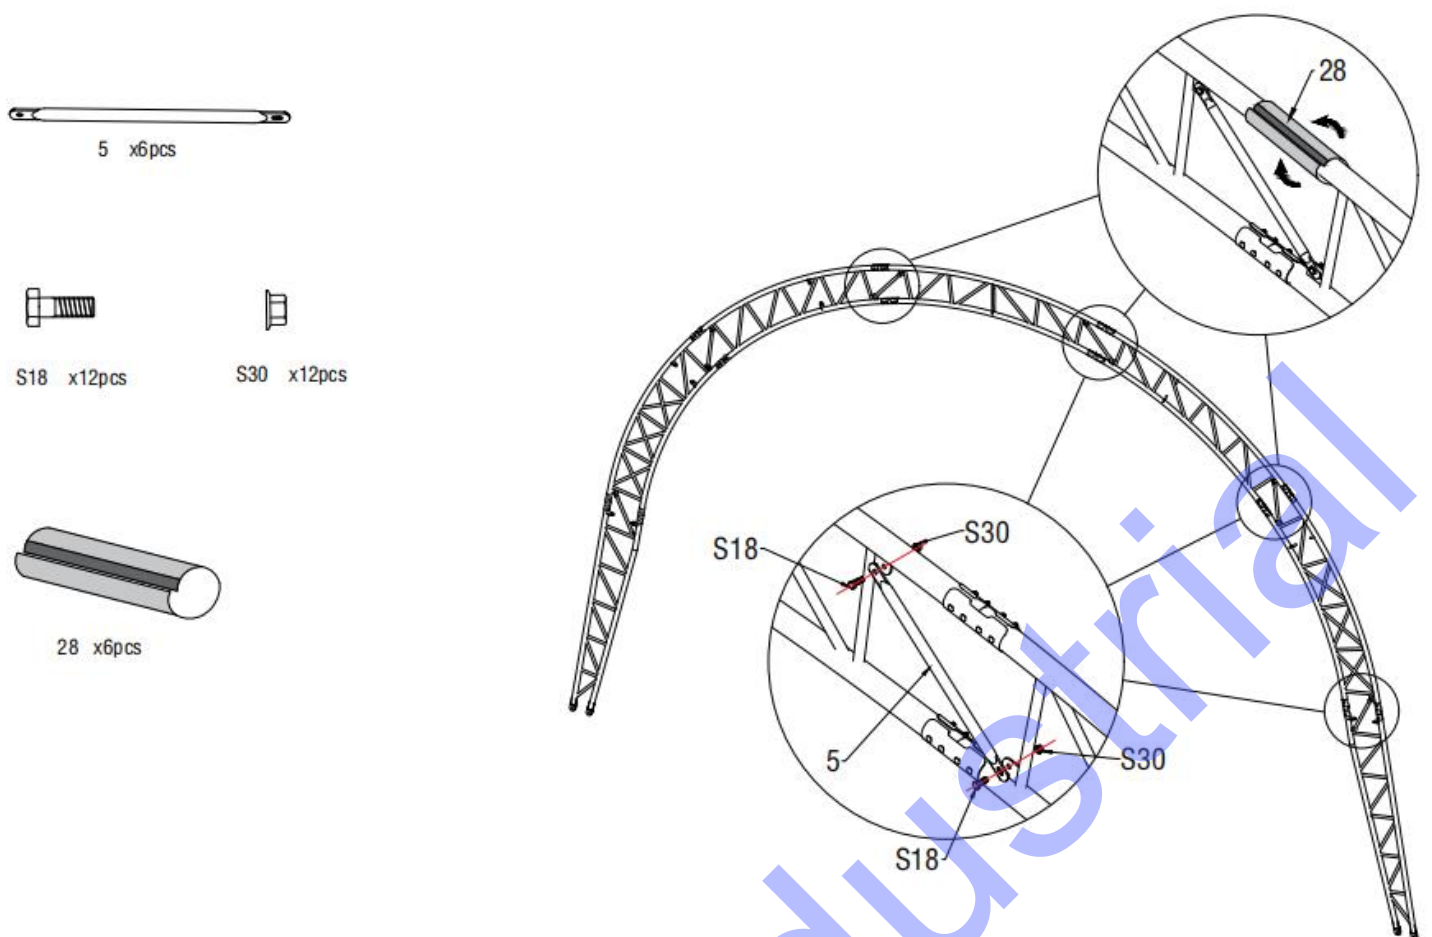

Figure 5
3. As figure 5 shown, use the Supporting Webbing between the arch(No.5) to connect the Top roof tube (No.1) with hexagon bolt 10\*30mm (No. S18). Then put the PVC protective cover on the outer of connection of the arch to protect the roof cover from scratched by the outer joint. Assemble the rest of the other group double truss arch like this.